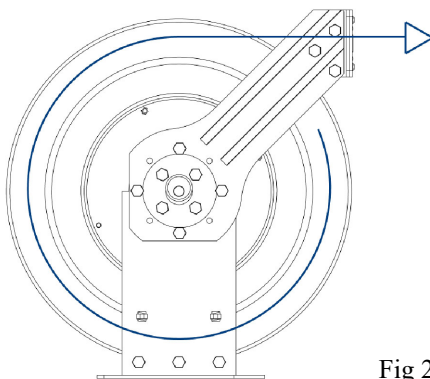

Fig 2
**Note: Hose must always pull straight off the drum as pictured in fig 2 below**